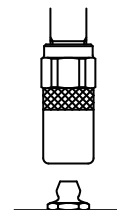

Fig.4
- 1) Wipe the grease nipple to be used for greasing completely. After that, push the hydro chuck of the high-pressure grease gun against the grease nipple vertically. (Fig. 4)